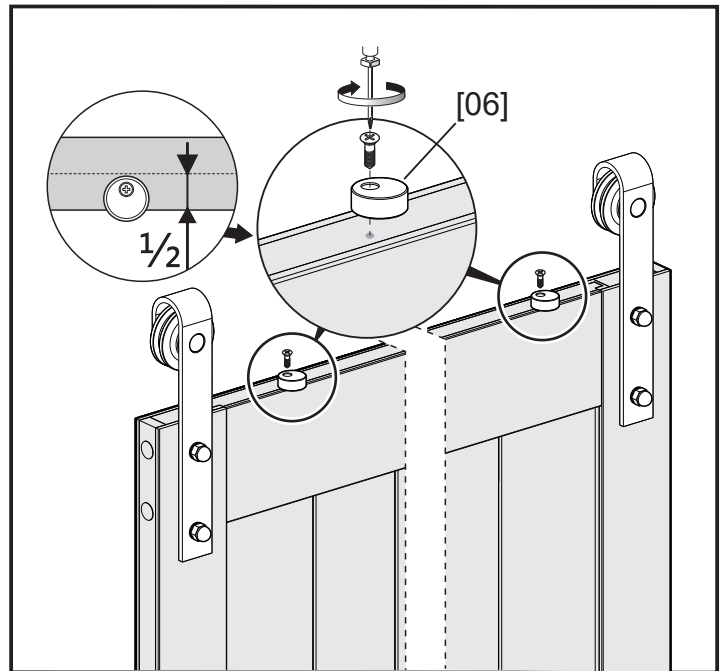

Fig 9
- Install **Anti-jump Blocks [06]** and secure them with screws as figure 9 shows. **Do not over tighten.**